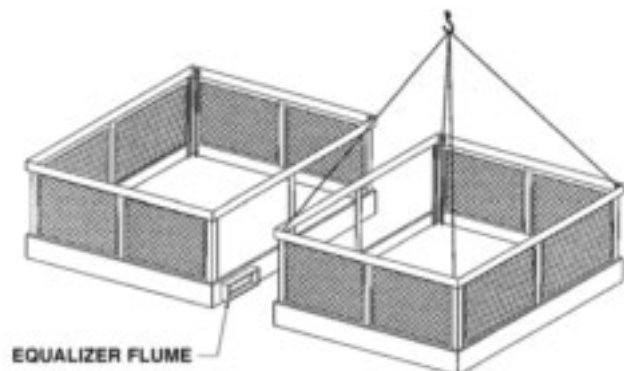

Figure 4 – Equalizer Flume Rigging Detail
5. Clean the mating surface of the side panel of any dirt, grease or moisture. Rig the second bottom section adjacent to the equalizer. See Figure 4.